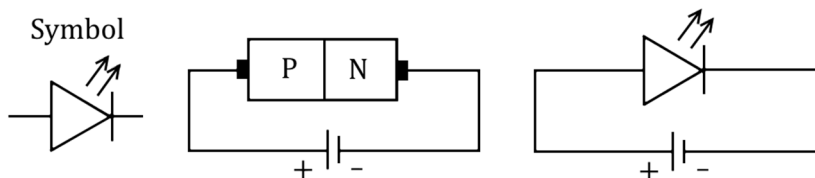

Fig. 1.38: Symbol and circuit diagram of a LED
**Working Principle:** Fig. 1.38 shows the symbol and circuit diagram of a LED. The LED is a semiconductor device based on the principle of electro-luminescence. It emits light in forward biased condition.